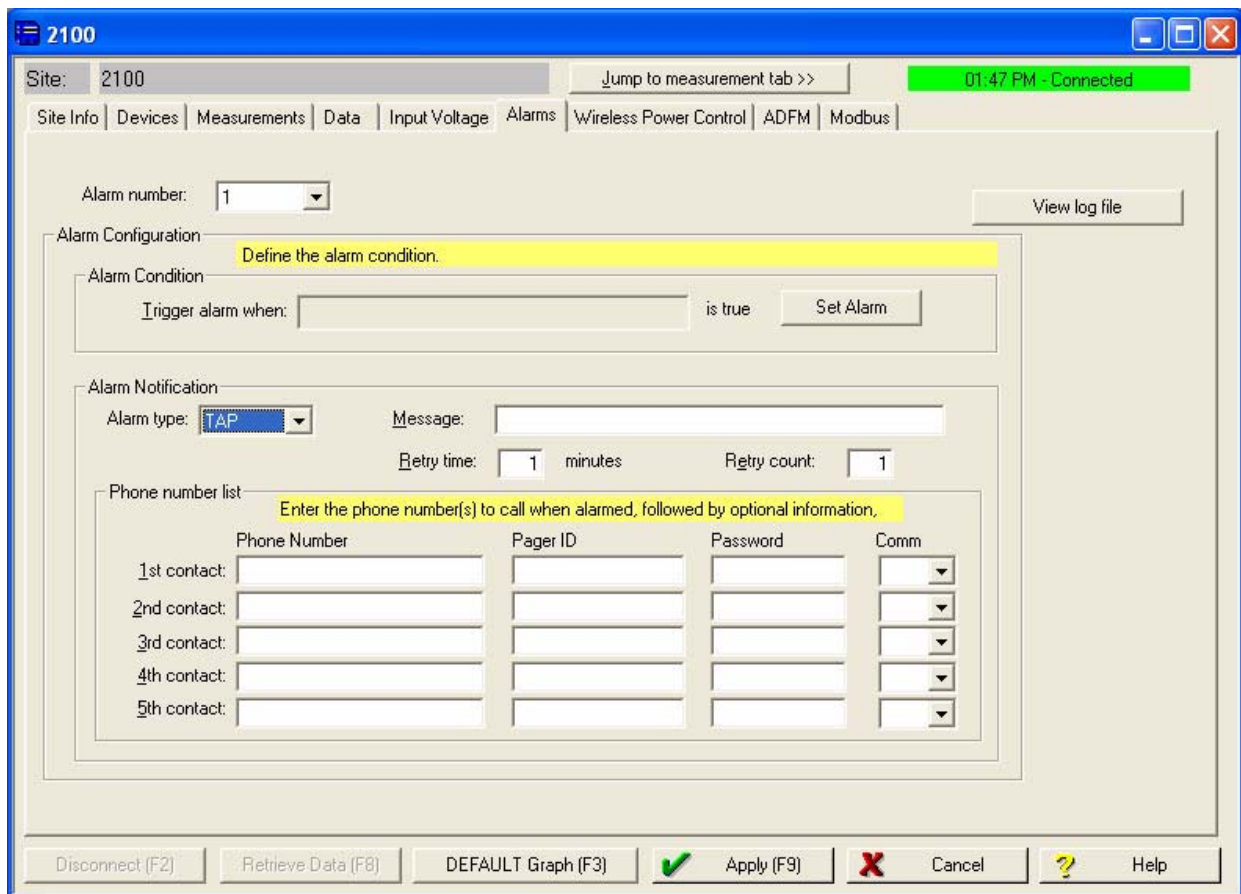

Figure 2-7 Dialout phone numbers and alarm conditions
1. Make sure you are connected to the site, and select the Alarms tab (Figure 2-7).